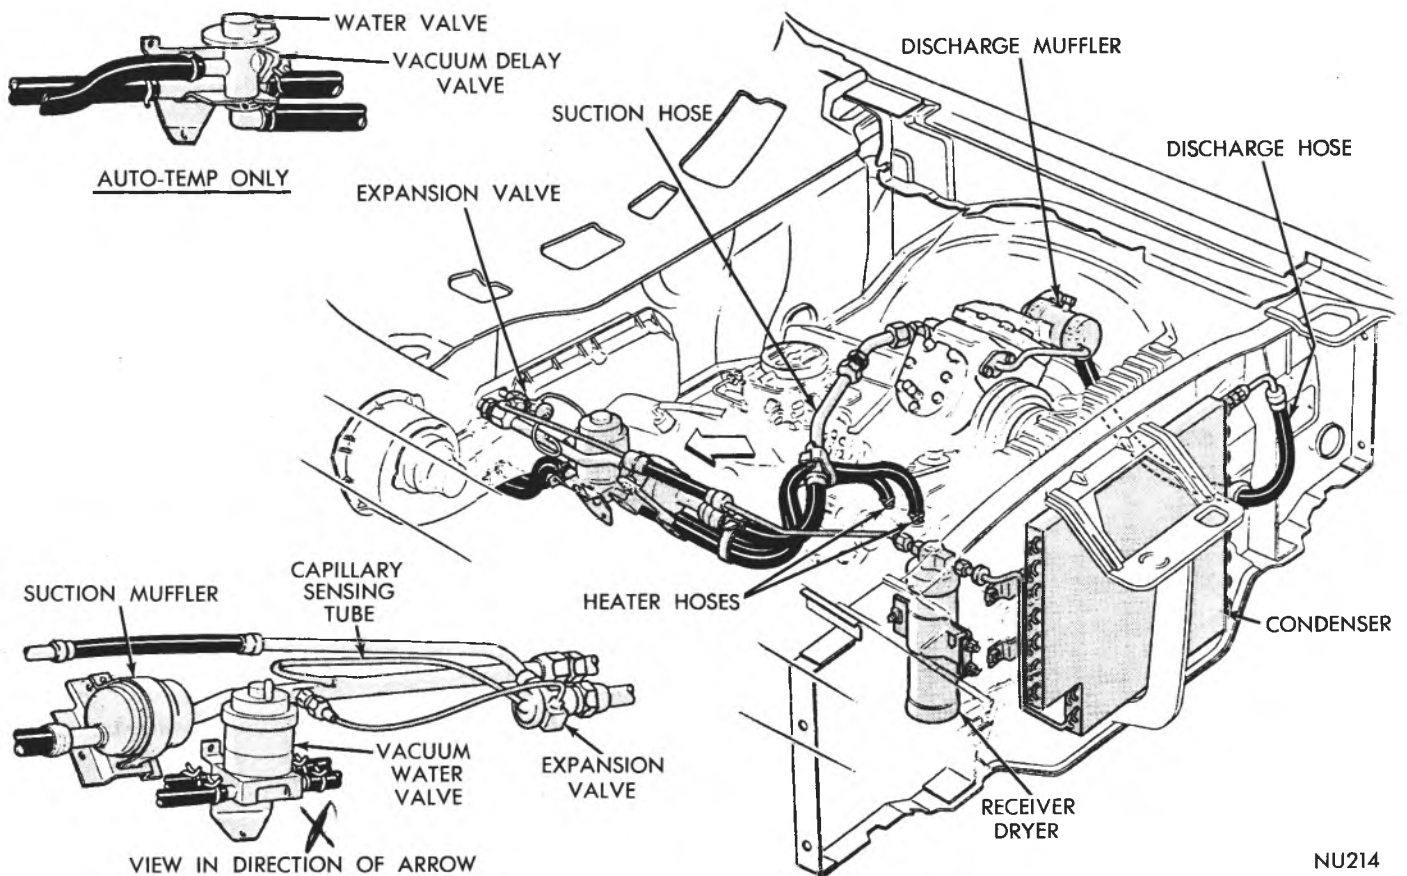
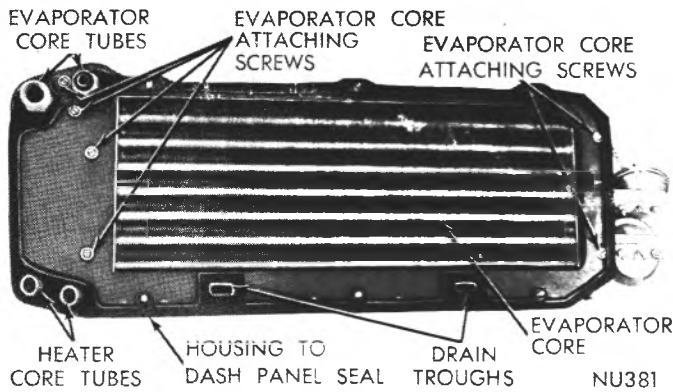

Fig. 45—Air Conditioning and Heater Plumbing (383-440 Engines)
Fig. 46—Evaporator—Back Side of Front Cover
- (1) Disconnect equalizer from suction line fitting (Fig. 45).
- (2) Disconnect expansion valve from liquid line and evaporator. Use two wrenches to loosen each of these connections.
- (3) Carefully pull out capillary sensing tube from suction line well.
- (4) Remove rubber seal from the capillary sensing tube. Inspect condition of inlet screen.
(1) Disconnect negative battery cable, drain cooling system, remove air cleaner and disconnect heater hoses. Plug both core tubes to prevent spilling coolant when unit is removed (Fig. 45).
(2) Disconnect suction line and expansion valve from evaporator tubes. Use two wrenches to loosen each of these connections. Cap all refrigerant openings to prevent the entrance of dirt or moisture.
(3) Remove steering column cover and remove left spot cooler duct.
(4) Remove glove box and remove center spot cooler, air distribution housing and right spot cooler duct.
(5) From glove box opening, disconnect wires at resistor block and vacuum hoses from recirculating housing actuator.
(6) Unplug antenna wire from radio and place wire out of the way.
(7) From engine compartment remove seven retaining nuts surrounding engine side housing (Fig. 46).
(8) Through glove box opening remove retaining nut from housing end of support bracket and swing bracket up out of the way.
(9) Carefully roll housing out from under instrument panel.
(10) Place unit on bench, disconnect actuator rods, remove heat distribution duct, and separate front cover from evaporator housing by removing eleven screws surrounding the housings.
(11) From the tube side of the evaporator housing, remove six screws and carefully lift out the evaporator (Figs. 46 and 47).